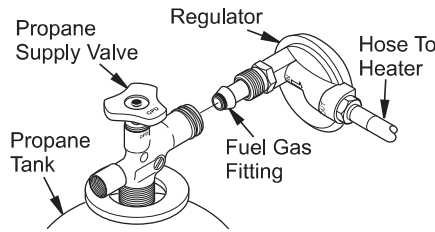

Figure 14 - Regulator Position
5. Connect fuel gas fitting on hose/regulator assembly to propane tank(s). Turn fuel gas fitting counterclockwise into threads on tank. Tighten firmly using a wrench. **IMPORTANT:** Position regulator so that hose leaving the regulator is in a horizontal position (see Figure 14). This places the regulator vent in the proper position to protect it from the weather.